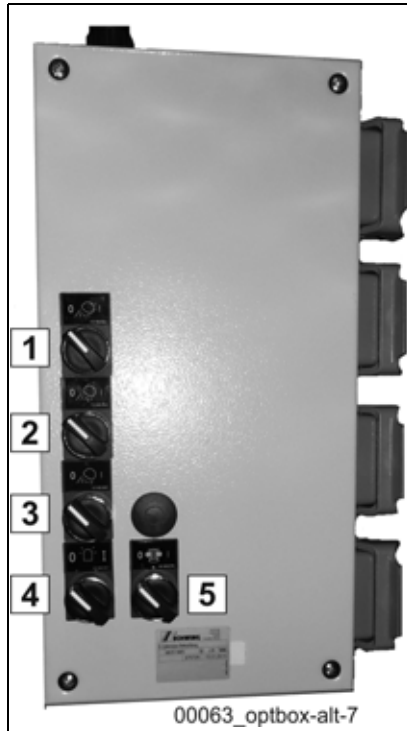

Fig. 491 E-option box on a truck-mounted concrete pump
0 The selector switch (4) (**Fig. 491**) is located in a separate housing next to the switch cabinet with the machine controls.